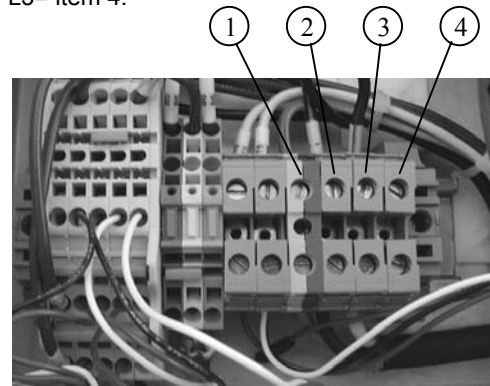

Figure 9
1. Make the input power connections through the line connection cord grip. Refer to Figure 9 for terminations inside the VFD controller. Ground = item 1, L1 = item 2, L2N = item 3 and L3= item 4.